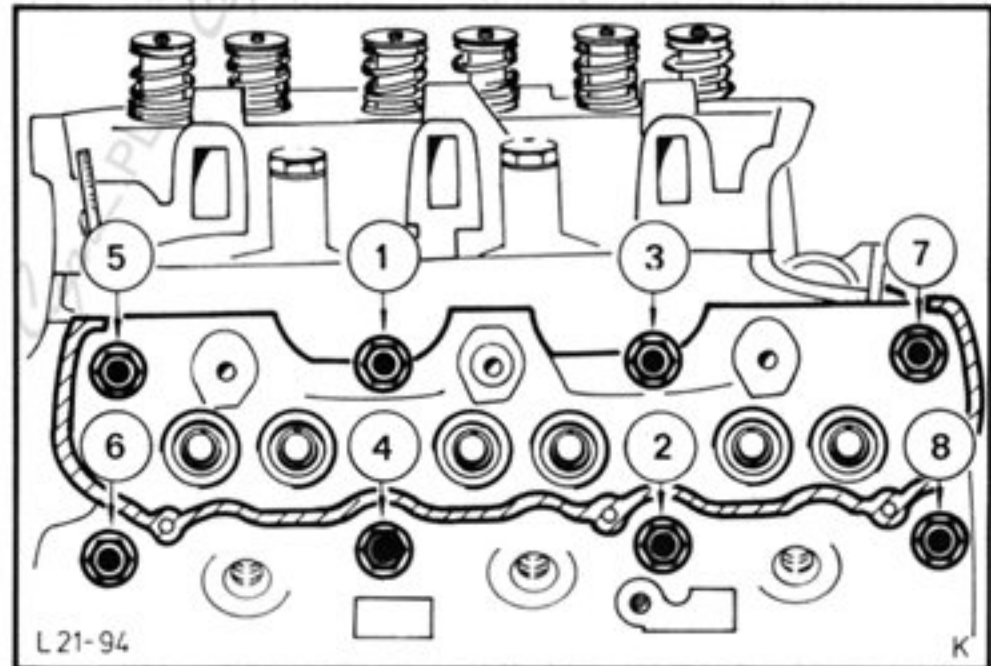

Fig.68. Cylinder head bolt tightening sequence.
63. Fit cylinder heads. Insert bolts and torque as specified in three stages proceeding in sequence shown in Fig.68 (see Technical Data).